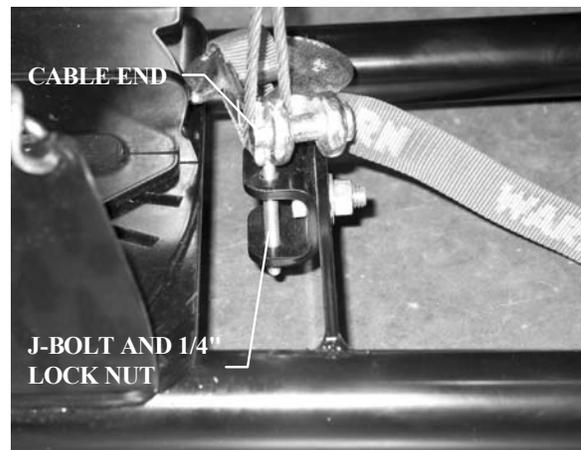

Figure 8 Completed J-Bolt Bracket
11. Attach a 1/4" Washer (C2) and 1/4" Nylock Nut (C3) to the end of the J-Bolt (C1). Tighten the nut until the winch cable loop is snug within the J-bolt hook. The completed assembly should look like Figure 8.